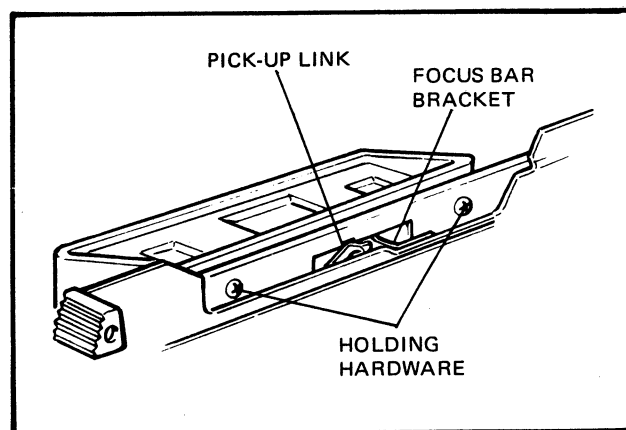

FIG. 5.41 POSITIONING THE RF/VF ON THE CAMERA
RF/VF to the camera (Figure 5-41). Depending on whether there are hex-head screws or Phillips-head screws, use tool #A11092 or #A11093 to remove them. Retain the hardware. Lift the RF/VF off the camera.
1. Position the RF/VF on the camera. **Be sure the focus bar bracket is to the left of the RF/VF pick-up link as shown in Figure 5-41.**